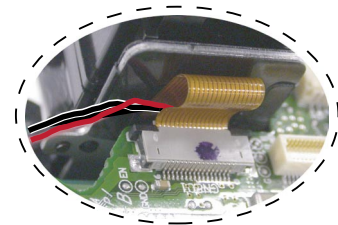

Fig. 1
- Attach the SB unit ① to the condenser holder ② .
- Attach the screw ③ (M1.7 x 4).
- Attach the TB-2 OCB ④ to the CP-1 PCB ⑤ .
- Connect the FPC ⑥ .
- Connect the FPC ⑧ of the holder unit ⑦ .
- Attach the 2 pieces of spacer ⑨ .
- Connect the SB unit ① and CP-1 PCB by the connector ⑩ .
- Connect the CP-1 PCB ⑤ and CA-1 PCB by the connector ⑪ .
- Attach the screw ⑫ (M1.7 x 3).
- Connect the FPC ⑬ (Fig.1).